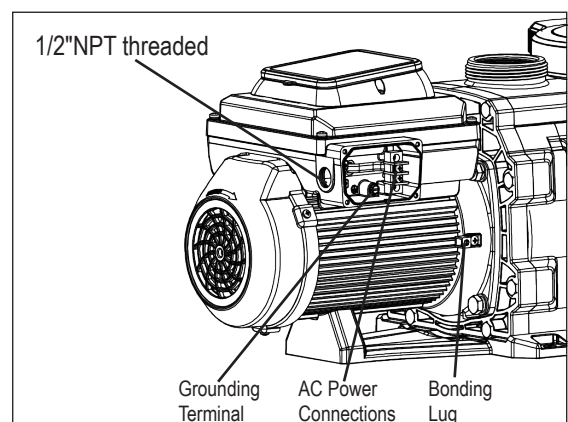

Figure 4
The pump accepts 230V, 50, or 60Hz single phase input power. The terminal block connections are capable of handling up to 12AWG solid or stranded wire. There are also fast-on type quick connectors, however, check the local electrical codes for the desired connection method. The connections must be permanently made to the grounding terminal (see Figure 4) in the field wiring compartment according to the local electrical code.
1. Be sure all electrical breakers and switches are turned off before wiring motor. Always wait five (5) minutes after disconnecting the power from the pump before opening or servicing the drive.
5. Permanently ground the motor using the ground screw located on the inside rear of the controller interface (see Figure 4). Use the correct wire size and type specified by the current National Electrical Code. Be sure the ground wire is connected to an electrical service ground.
6. Bond the motor to all metal parts of the pool structure and to all electrical equipment, metal conduit, and metal pipping within 5 feet (1.5 M) of the inside walls of the swimming pool, spa or hot tub in accordance with the current National Electrical Code. UL requires use of a solid copper bonding conductor not smaller than 8 AWG. See Figure 4.